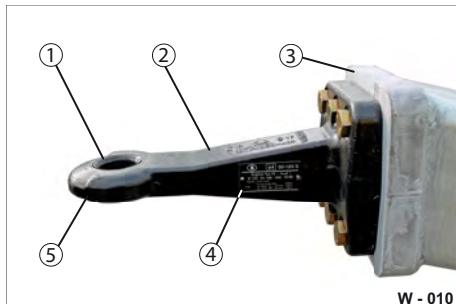

Fig. 13 Lubricate towing eye
- ▶ Clean the wear bushing (Fig. 13/1) and the towing eye (Fig. 13/2) with a clean, dry cloth.